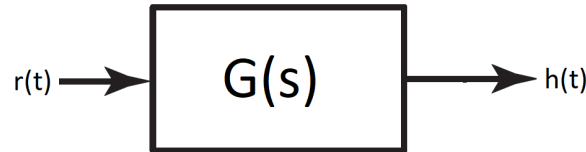
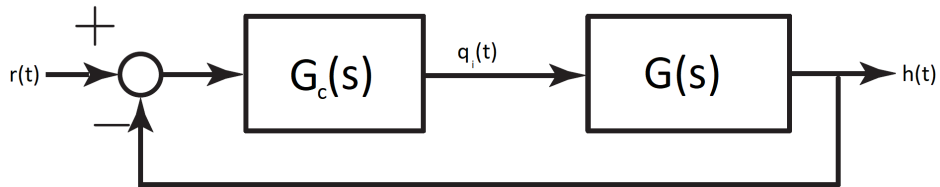

Figure 1: Block Diagram of the Open-Loop System
Figure 2: Block Diagram of the Closed-Loop System
3. The block diagram of the Figure 5 from Preliminary Work can be seen at *Figure 1* while of the Figure 6 from Preliminary Work can be seen at *Figure 2*.